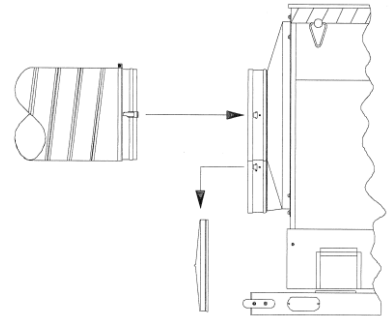

FIGURE 6
2. Place air duct in aircraft and ensure that the opening is unobstructed. Remove yellow output air duct from the storage compartment located under the unit. Remove yellow dust caps from the input and output duct openings located on the back of the air conditioner and place in the storage compartments. Attach yellow output air duct to the air conditioner via the duct opening located on the back of the air conditioner. **See Figure 6.** Place other end of yellow duct into the aircraft.